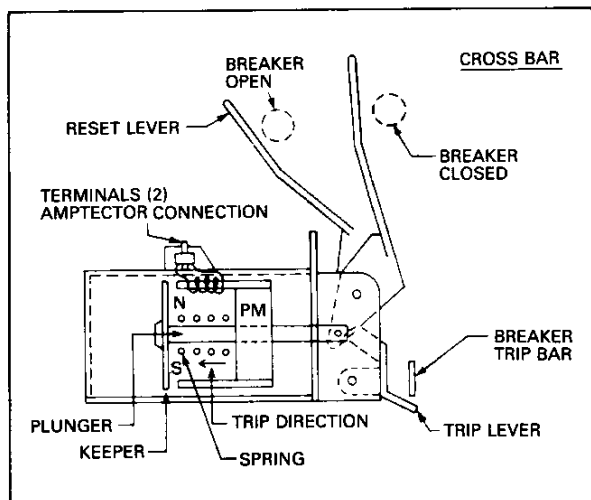

Fig. 3 Actuator Diagram
When the actuator receives a tripping pulse from the Amprector, it releases a mechanical force to trip the breaker. The actuator is made up of a permanent magnet and a spring (see Fig. 3). When the breaker is open, the cross bar pushes the reset lever. The reset lever moves the plunger out, and the plunger then compresses the spring and pulls the keeper until it contacts the pole pieces of the magnet. Although the magnet cannot pull and reset the keeper against the force of the spring acting on the plunger, it can hold the spring force when the keeper is in contact with the magnet. A current pulse from the Amprector counteracts the effects of the permanent magnet allowing the spring to separate the keeper from the magnet and move the plunger to actuate the trip lever.
3. Operate the actuator a few times. Alternately pull back on the reset lever (see Fig. 3) and then trip by applying 9 to 12 volts D-C (be sure to use correct polarity) to the terminals.